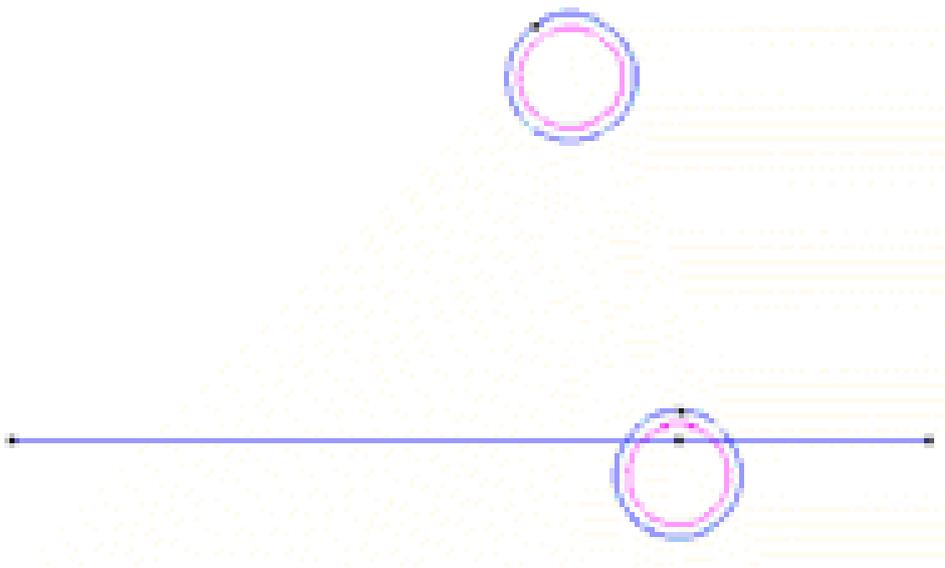

Figure 6. Result of the rotations
- 2 . Repeat the rotation process explained in section 2.4, but this time with an angle of 36 degrees (see Figure 6).